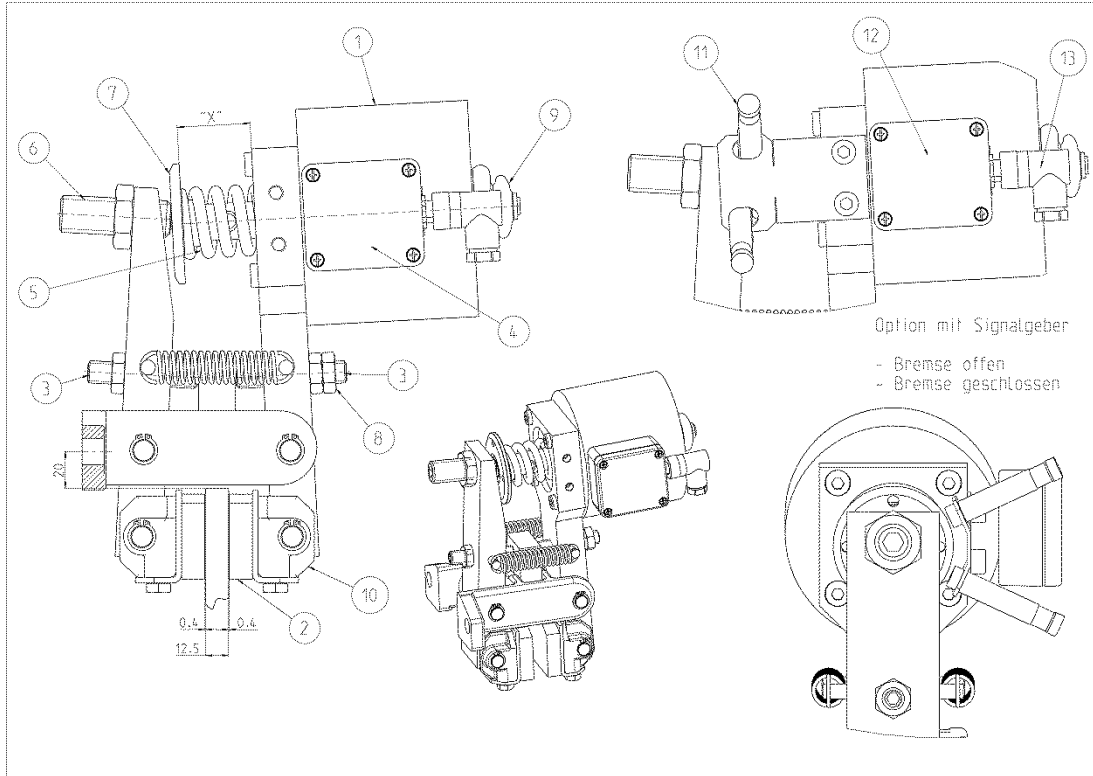

Fig. 2.1
- the DV 020 FEM with left-mounted electromagnet as shown in Fig. 2.1, for mounting on a 12.5 mm thick brake disc.
The friction block distance is adjusted after mounting the brake caliper by adjusting / readjusting with the adjusting screw (3). The distance between the friction blocks and the brake disc on both sides should be approx. 0.4 mm when new. If the friction blocks wear out, brake force must be adjusted. When reaching a dimension of "X" = 44 mm (see figure 2.1) at the latest, brake force adjustment and adjustment of the friction blocks must be carried out.